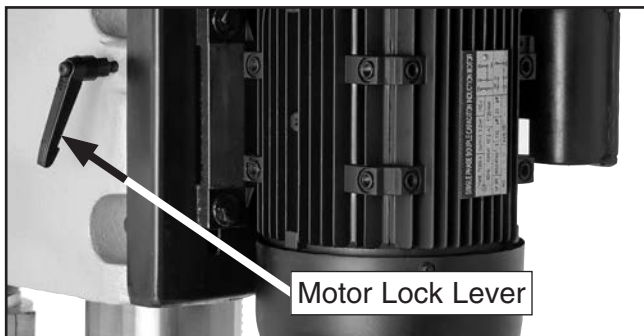

Figure 12. Location of motor lock lever, used when changing V-belt positions to select desired spindle speed.
2. Loosen motor lock lever shown in **Figure 12**, pull motor inward to relieve tension on V-belts, then re-tighten lock lever.